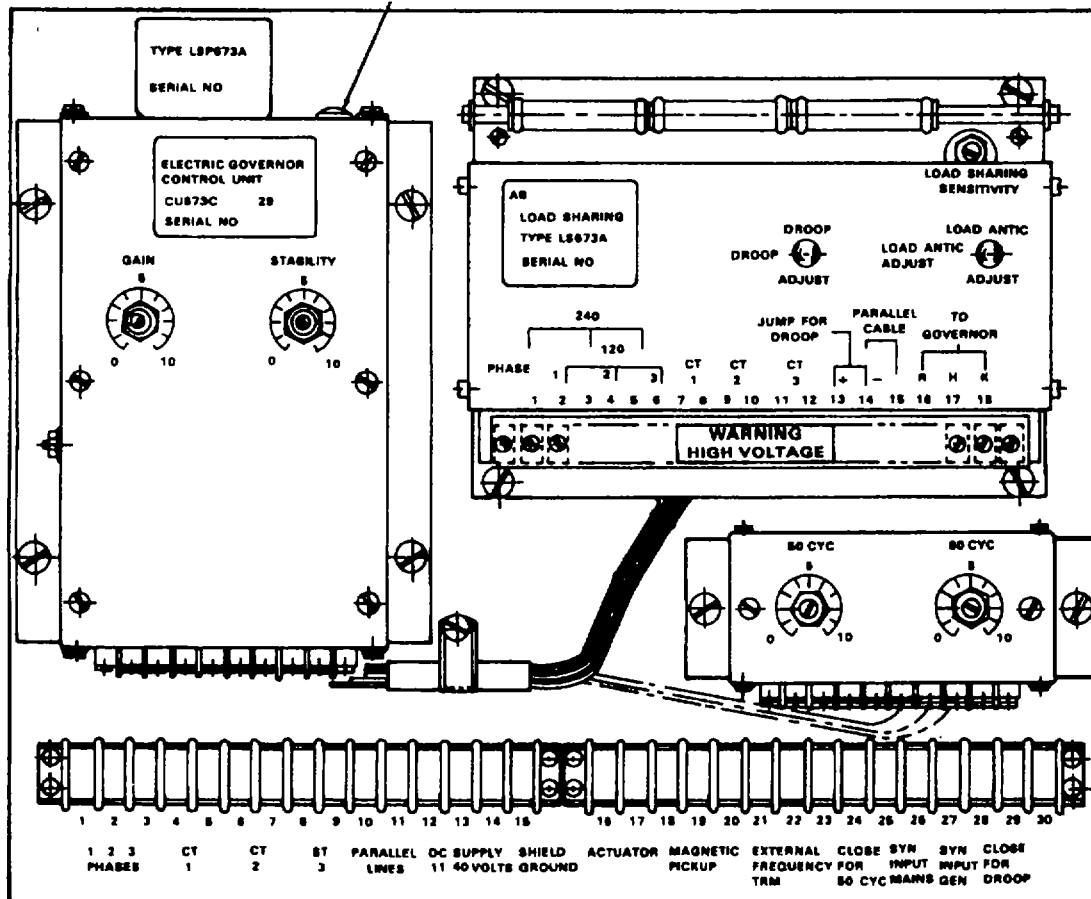

Figure 6-30. Load Sharing Panel A104 Controls
- (1) The magnetic pickup PUI is a magnetic device that is mounted in the flywheel housing. As the flywheel gear teeth pass the pickup, an ac voltage is induced, one cycle for each tooth. The frequency input signal from the magnetic pickup PUI may be as low as 0.5 volt rms or as high as 30 volts rms. A value of 1 volt rms at cranking speed is adequate.
- (2) The magnetic pickup PUI is mounted through a threaded hole in the gear case of the flywheel bell housing. The magnetic pickup PU 1 can be screwed in (with engine stopped) until the tip strikes the top of the gear tooth, then backed out three-quarters of a turn and secured by the locknut.
d. Load Sharing Panel A104 (see Figure 6-30).
- (1) The load sharing panel A104 consists of three components:
- (2) The load sharing panel A104 will provide accurate control at temperatures from -65 to 175°F (-54 to 79°C). The power resistors on the load sharing module will develop some heat which must be dissipated.
- (3) The three load sharing panel A104 components are prewired into the top row of the 30-position terminal strip.
- (3) The electric governor control unit has three adjustments (see Figure 6-30):
- f. Load Sharing Module A104 (see Figure 6-30). The precise loadsharing module measures the true power output of an ac alternator and converts this output to a proportional dc voltage. By proper connection of the outputs, a multiple arrangement of generator sets can be connected in parallel to share the load equally. The inputs to the load-sharing unit are: line-to-line voltage, line currents, and battery supply. This module also includes load anticipation and adjustable droop control circuitry.
- g. Instability. Instability may occasionally result when units are paralleled. Instability can be caused by the LOAD SHARING SENSITIVITY control (Figure 6-30) being set too high. Turn the sensitivity control counterclockwise until stability is restored. The system should stabilize with the control no more than 75 percent counterclockwise. This must be done the same on all units. If instability is still present, the GAIN adjustment on the speed control unit may have to be reduced slightly.